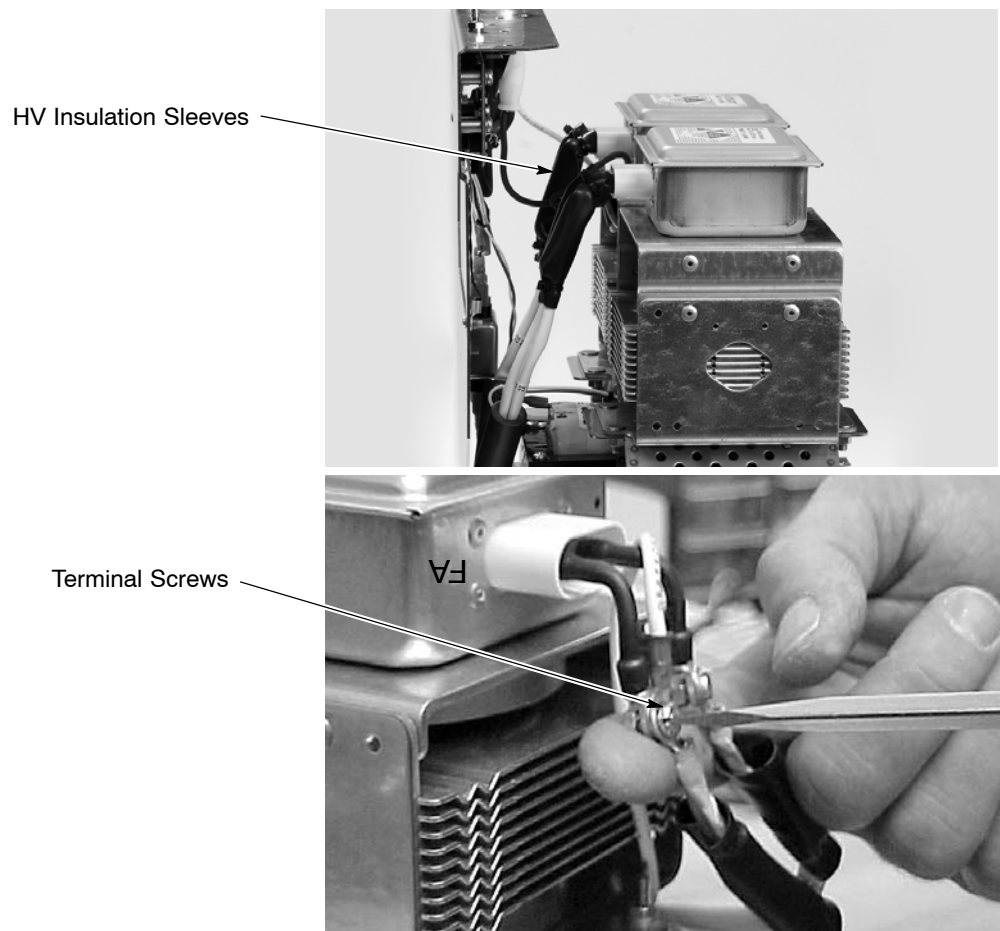

Figure 4 Insulation Sleeve Removal and HV Connections
1. See Figure 4. Cut the four wire ties securing the black HV insulation sleeves to the X1 and X2 secondary cables and the white and black 20 AWG HV harness cable at the magnetron.
13. See Figure 4. Connect both the X1 transformer secondary cable and 20 AWG HV cable with ferrite to the **FA** terminal pigtail with one of the screws removed in step 3.